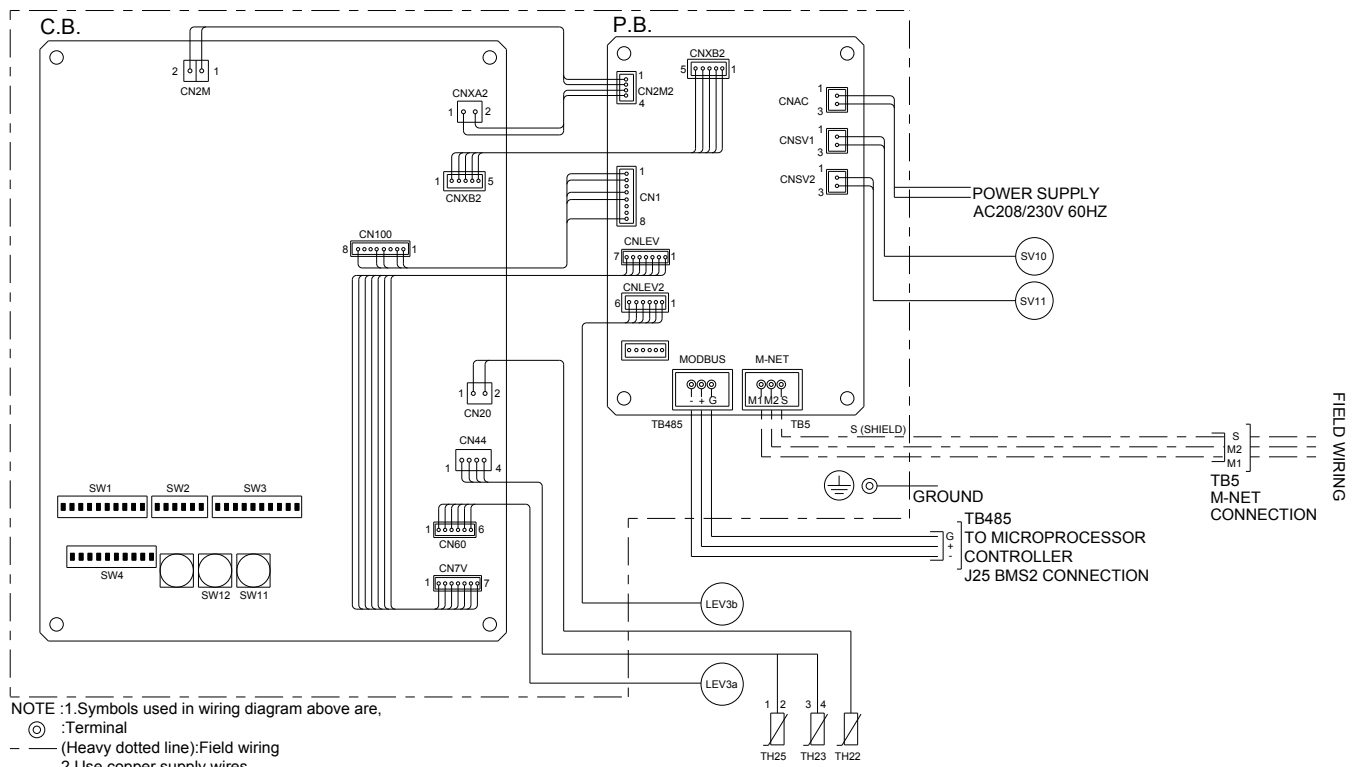

Figure 2. PAC-M200-A M-NET Wiring
- 6) Reroute all wires into the box and reconnect. Refer to the above wiring diagram, Figure 2 for correct connections.